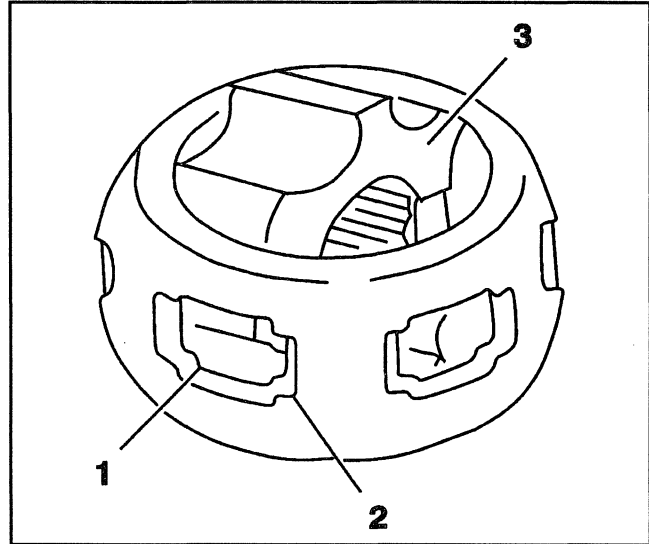

Figure 61—Separating Inner Race and Cage
- A. Rotate (3) inner race 90 degrees to center line of cage with (1) lands of inner race aligned with (2) windows of cage (Figure 61).